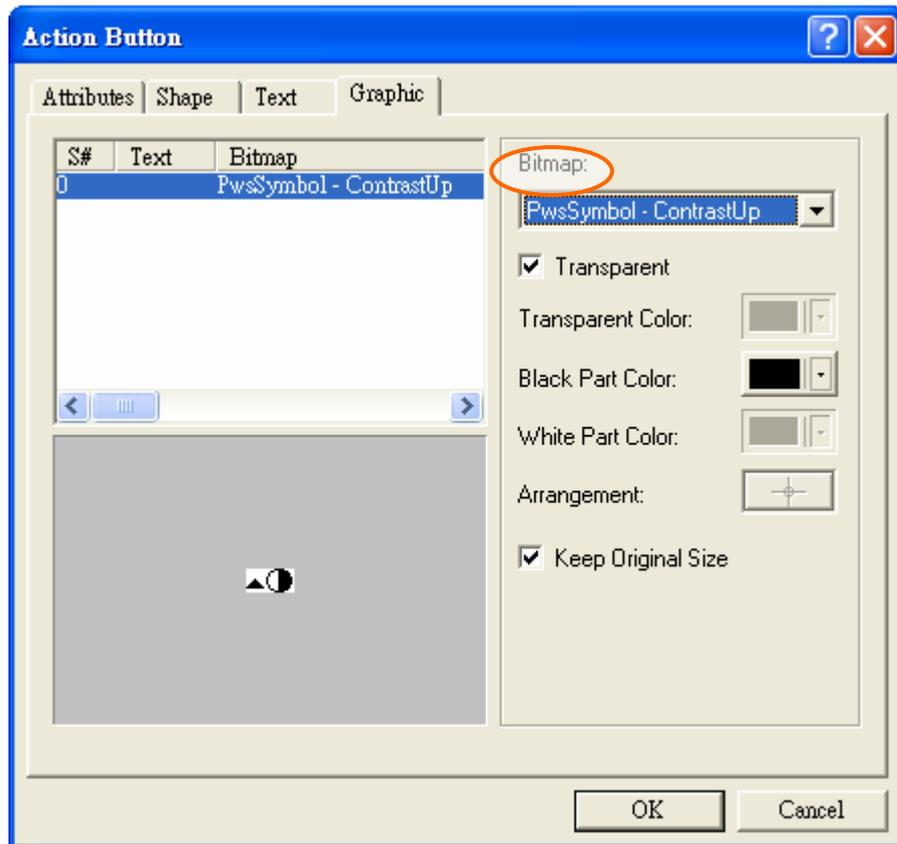

Figure 117. Select bitmap to an [Action] Button
2. The Bitmap is “PwsSymbol – ContrastUp”. See Figure 117.